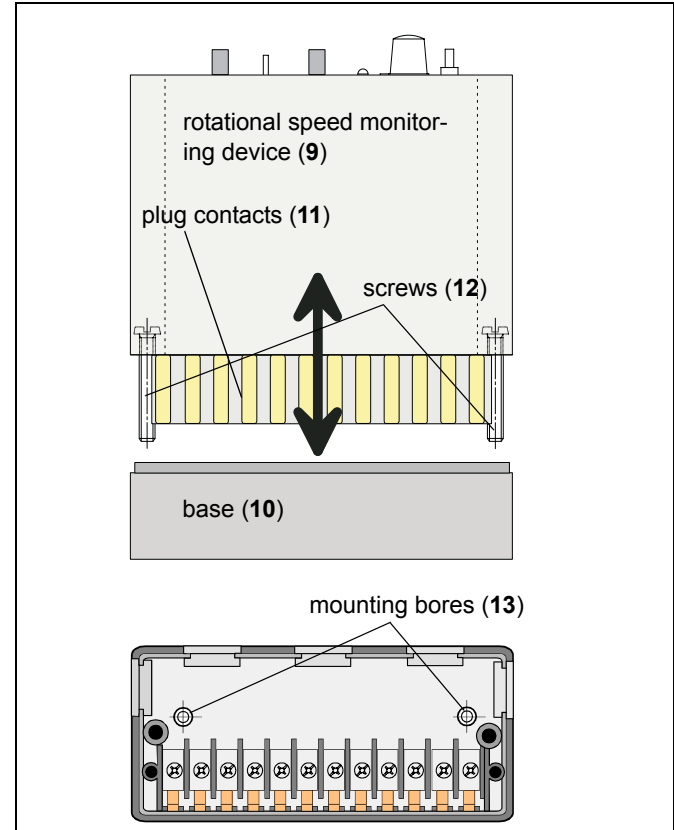

Fig. 5-2: Mounting to rotational speed monitoring device
2. Loosen the two screws (12) on both sides of the rotational speed monitoring device (9) (s. fig. 5-2).
3. Pull the rotational speed monitoring device (9) off the base (10).
5. Plug the rotational speed monitoring device (9) back onto the base (10) (s. fig. 5-2).